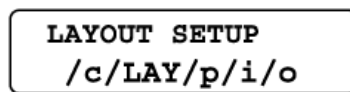

Figure 8-162 Color Video Printer Window Display (LAYOUT SETUP top menu displayed)
- 2.) Select LAY by pressing the  or  button. The LAYOUT SETUP top menu is displayed (Figure 8-162 below).
- 2.) Press the  button to display the LAYOUT SETUP menu (Figure 8-162).